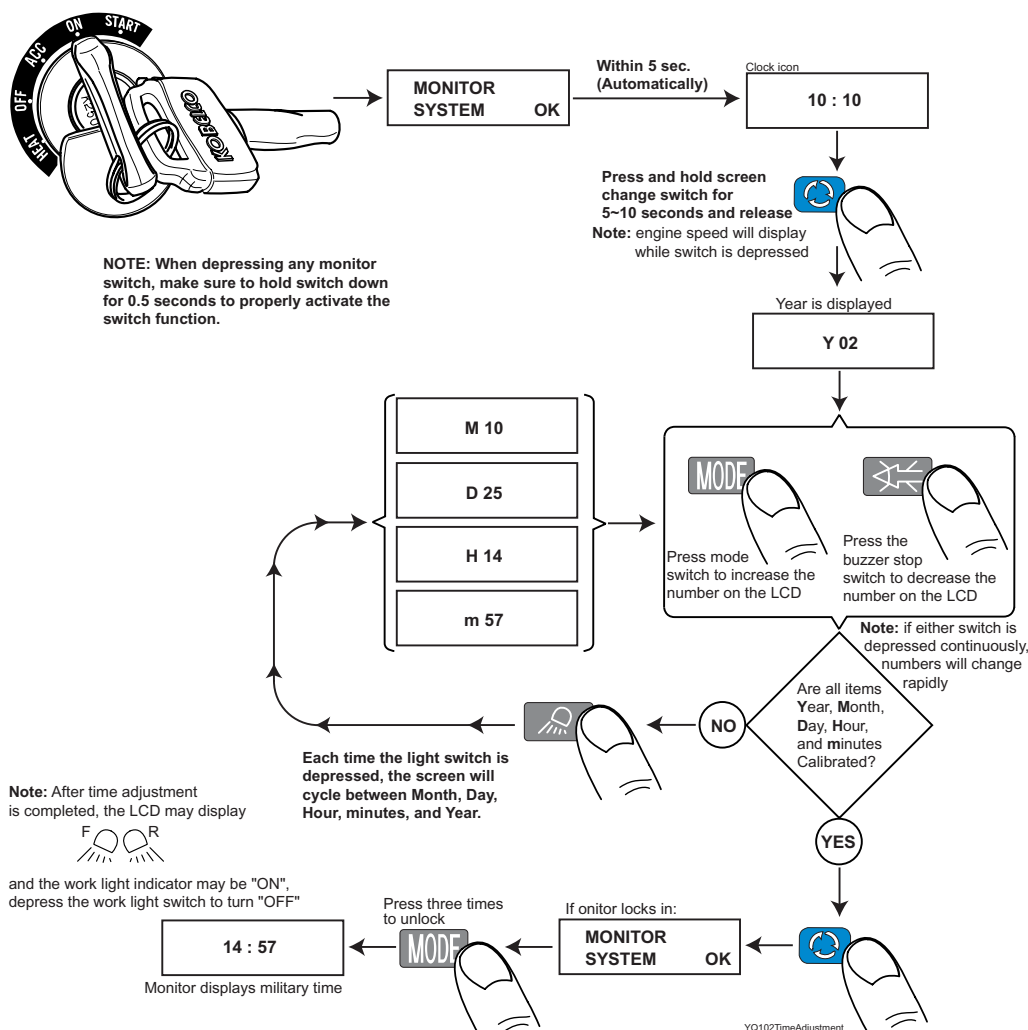

FIGURE 2.13A
10. Monitor Time Adjustment – FIGURE 2.13A